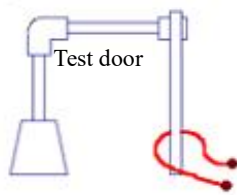
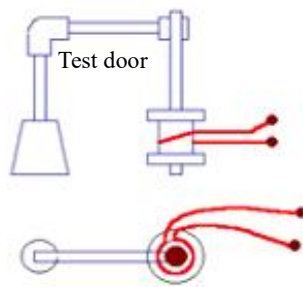

Fig.9-1
Fig. 9-2
9. 2. As shown in Fig. 9-1, Fig. 9-2 (the lead has been pass through the testing door) , it is one turn